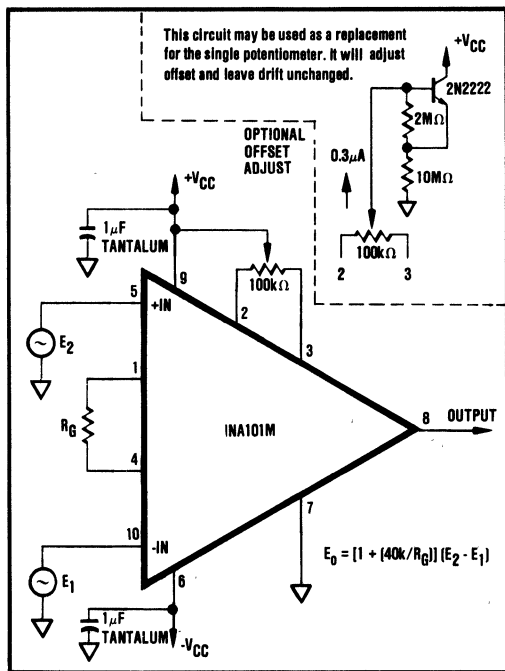
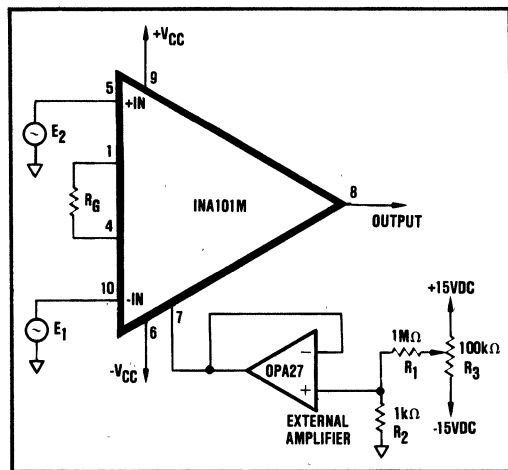

FIGURE 2. Basic Circuit Connection for the INA101 Including Optional Input Offset Null Potentiometer.
FIGURE 3. Optional Output Offset Nulling or Offsetting Using External Amplifier (Low Impedance to Pin 7).
At +25°C and in circuit of Figure 2 unless otherwise noted.
Figure 2 shows the simplest configuration of the INA101. The gain is set by the external resistor, R_G , with a gain equation of $G = 1 + (40k/R_G)$. The reference and TCR of R_G contribute directly to the gain accuracy and drift.
The optional offset null capability is shown in Figure 2. The adjustment affects only the input stage component of the offset voltage. Thus, the null condition will be disturbed when the gain is changed. Also, the input drift will be affected by approximately $0.31\mu V/^\circ C$ per $100\mu V$ of input offset voltage that is trimmed. Therefore, care should be taken when considering use of the control for removal of other sources of offset. Output offsetting can be accomplished in Figure 3 by applying a voltage to Common (pin 7) through a buffer amplifier. This limits the resistance in series with pin 7 to minimize CMR error. Resistance above 0.1Ω will cause the common-mode rejection to fall below 106dB. Be certain to keep this resistance low.
The basic circuit connection for the INA101 is shown in Figure 2. The output voltage is a function of the differential input voltage times the gain.
It is frequently desirable to null the input component of offset (Figure 2) and occasionally that of the output (Figure 3). The quality of the potentiometer will affect the results, therefore, choose one with good temperature and mechanical-resistance stability. The procedure is as follows:
3. Adjust to $100k\Omega$ potentiometer in Figure 2 until the output reads $0V \pm 1mV$ or desired setting. Note that the offset will change when the gain is changed. If the output component of offset is to be removed or if it is desired to establish an intentional offset, adjust the $100k\Omega$ potentiometer in Figure 3 until the output reads $0V \pm 1mV$ or desired setting. Note that the offset will not change with gain, but be sure to use a stable external amplifier with good DC characteristics. The range of adjustment is $\pm 15mV$ as shown. For larger ranges change the ratio of R_1 to R_2 .